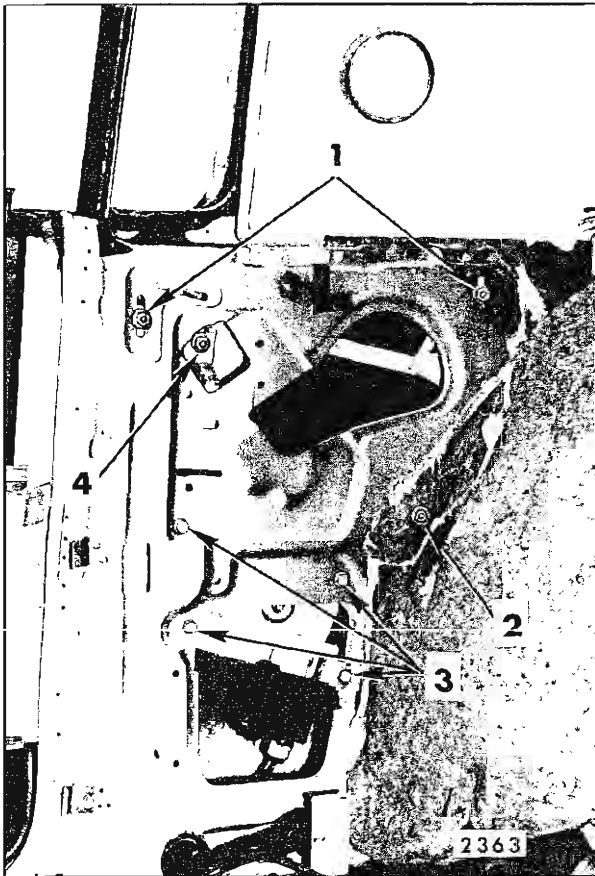

Fig. 7-27—Rear Quarter Hardware - "E-47" Style
2. Lower quarter window to gain access to nut securing regulator lift arm and stop to lower sash channel roller and remove nut (Item 4 in figure 7-27). Disconnect lift arm from sash channel cam.
3. Remove two nuts securing inner panel cam to inner panel (Item 1 in Figure 7-27).
**NOTE:** Major glass adjustment is available at inner panel cam adjusting studs and nuts (see Fig. 7-27). In addition, the glass run channel rear attachment provides in or out and up or down adjustment. Also, a glass lower stop is attached to the rear plate of the glass run channel. This stop is adjustable fore and aft.